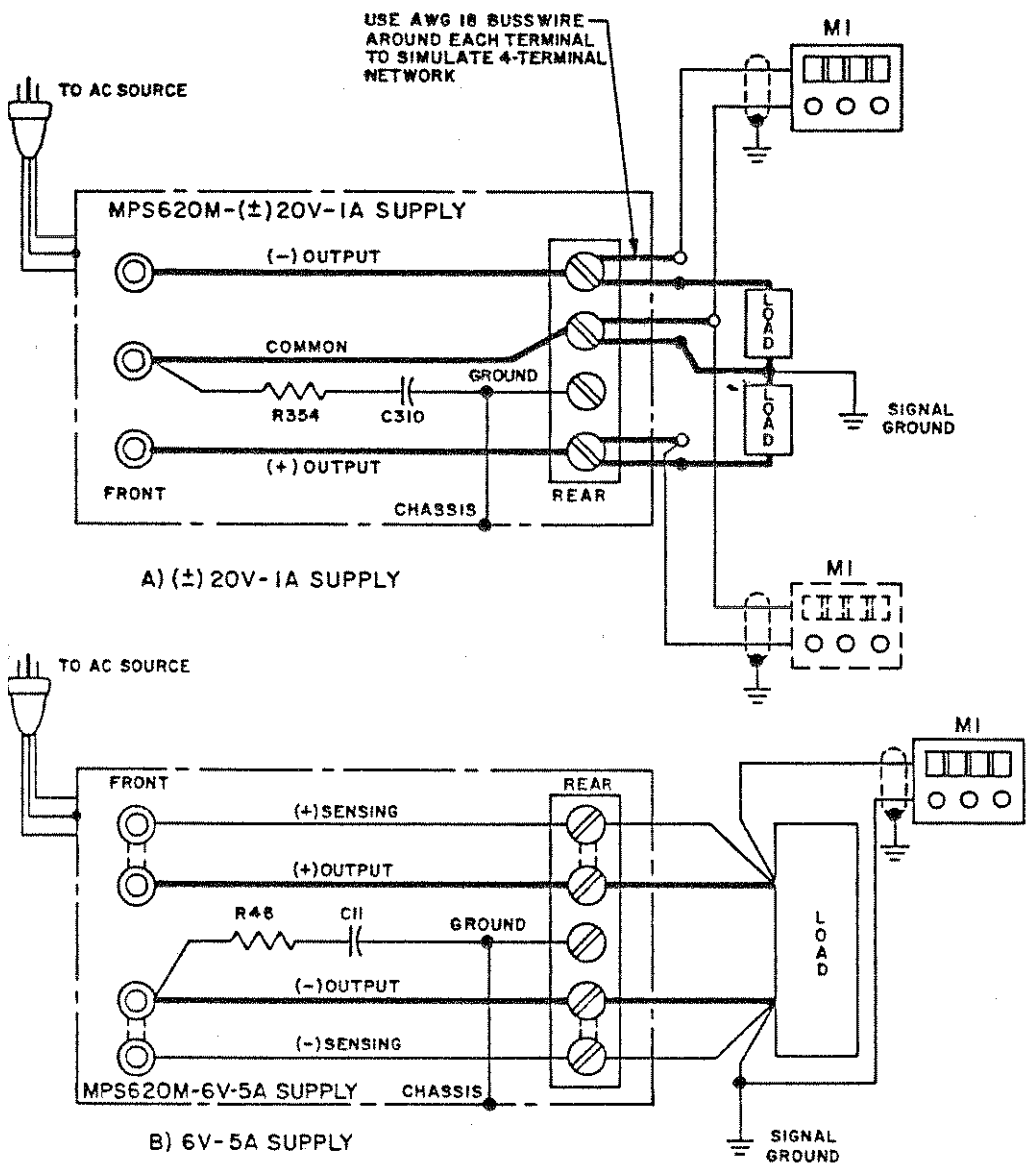

FIG. 5-2 CONNECTIONS FOR OUTPUT EFFECT MEASUREMENTS,
- b) The proper location of the instrument leads when measuring output effects in response to a-c input source changes or load variations is of the utmost importance. Improperly placed leads may measure voltage drop due to contact resistance and load current flow and thus lead to incorrect results. FIG. 5-2 (a,b) shows clearly how to employ "4-terminal network techniques" when measuring output effects. The principle is very simple but important: **DO NOT MEASURE VOLTAGE DROPS DUE TO LOAD CURRENT.**
USE THE TEST SET-UP SHOWN IN FIG. 5-2. Vary the a-c input or the load over the specified limits and note the deviation (ΔE_o) on the instrument (M1). Calculate output effects by means of the equation (Eq. 1) above.